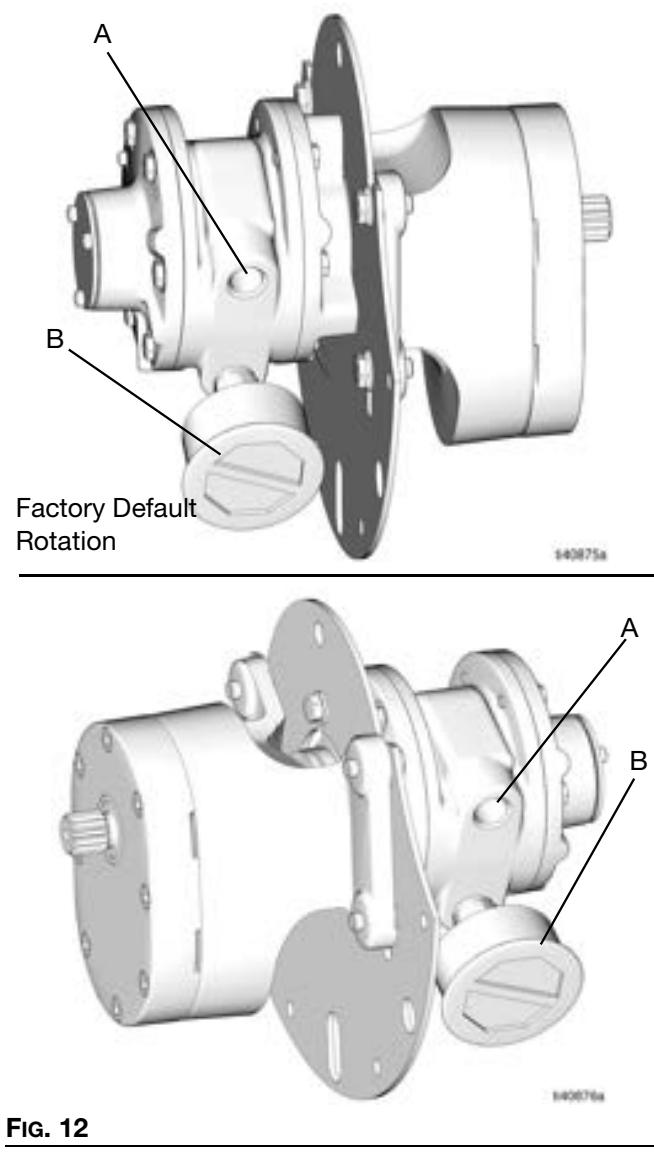

FIG. 12
**NOTE:** When the reel is powered the spool should wind in the direction that allows the hose to wind up onto the spool. The factory default reel configuration is counter-clockwise rotation of the motor when viewed from the motor side of the spool (end opposite the motor shaft). See FIG. 12.
- Pneumatic Motors - Reverse input and muffler parts on pneumatic motor (FIG. 12, page 24).